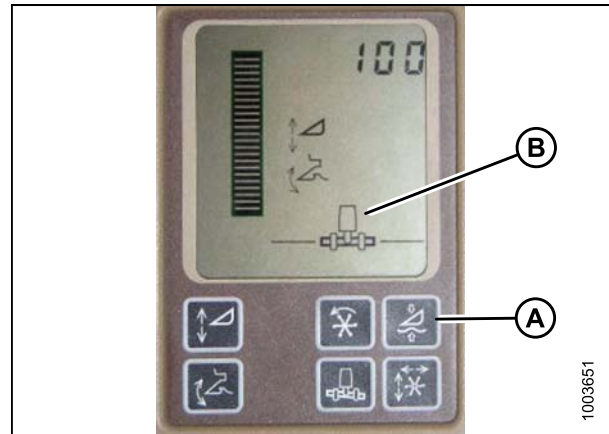

Figure 3.178: Combine Display
Do **NOT** use the active header float function (A) in combination with the MacDon Auto Header Height Control (AHHC)—the two systems will counteract one another. The header symbol (B) on the display should NOT have a wavy line under it and should appear exactly as shown on the Active Header Control Display in Figure 3.178: *Combine Display*, page 138.